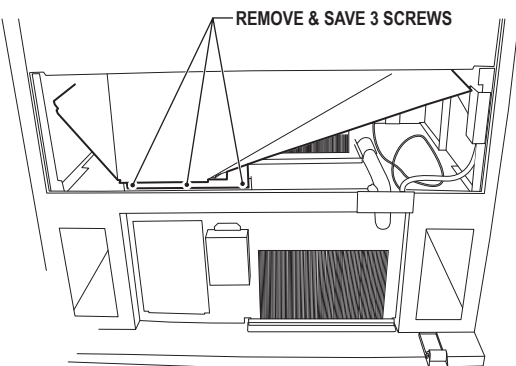

FIGURE 14. REMOVE HOPPER SCREWS
2. Remove and save the 3 screws holding the Hopper. See Figure 14.